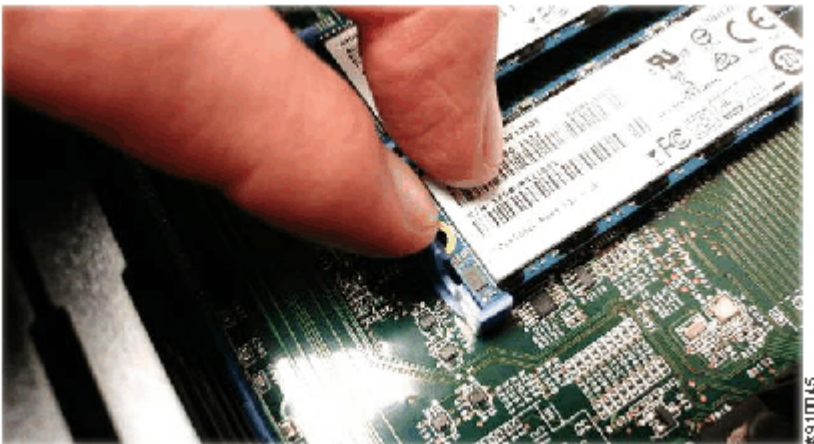

Figure 92. Removing the boot drive
9. Gently open the blue friction latch, as shown in Figure 92 on page 145. Apply gentle pressure; do not force the latch open.